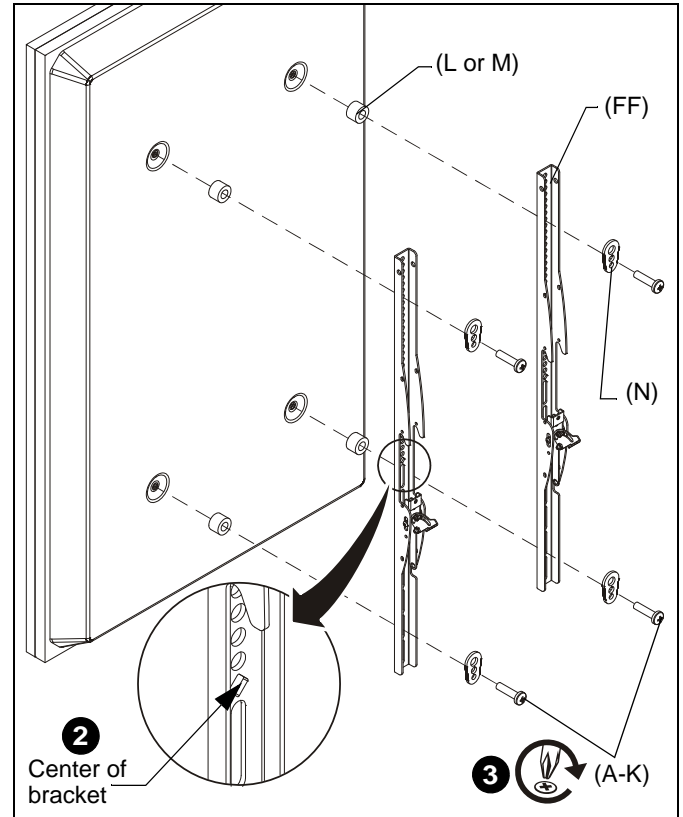

Figure 6
2. Align the center of the interface bracket (FF) with center of screen. (See Figure 6)
3. Select correct screws, spacers (if necessary) and universal washers from the hardware bag (A-N) and attach brackets (FF) to back of screen. (See Figure 6)